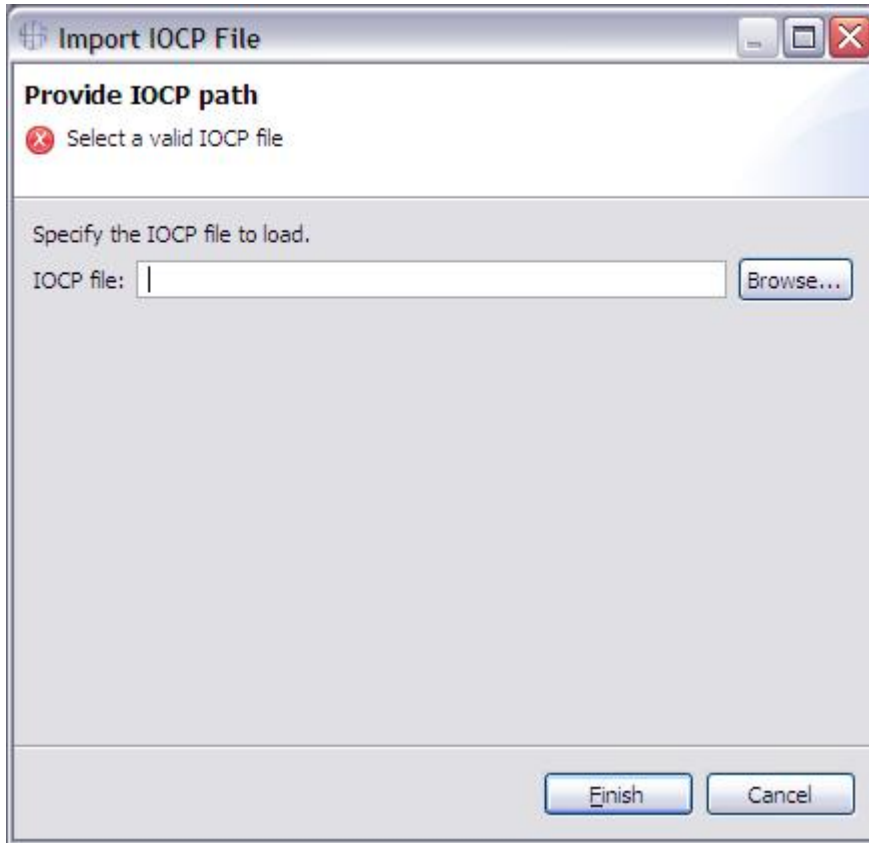

Figure 59. Window for specifying IOCP file
2. Click **Import IOCP File**. The tool opens the window where you specify the IOCP file. Figure 59 on page 46 shows this window.